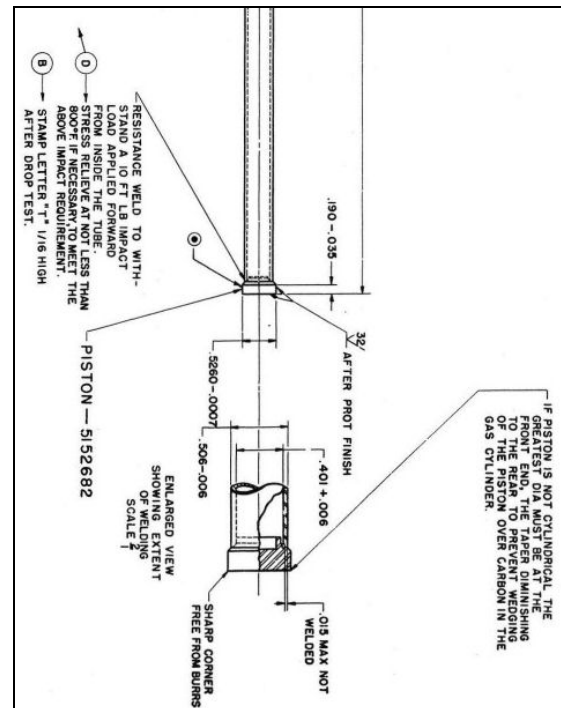

Figure 1 – Partial View, Rod Assembly – 6535382
I have obtained the last known changes to both the NM & standard (Std) Op Rod Assembly drawings. The Std Op Rod (Figure 1) has gone through at least six major revisions from 1938 through 1961. Drawing 6535382 states that the Op Rod Assembly can be used on M1, M1C & M1D rifles. Similarly, the NM Op Rod (Figure 2) went through two major revisions from 1960 through 1967. Both operating rod assemblies were originally drawn at Springfield Armory. The NM Drawing 7790722 indicates that the NM Op Rod can also be used on the M1, M1C, M1D & NM rifles. All blueprint revisions to the Std Op Rod were performed at Springfield Armory, while the 1967 revision to the NM Op Rod was drawn at Rock Island Arsenal.
The NM Assembly 7790722 is made up of the Handle & Tube Assembly, Part No. 6535383, & the Piston. The Handle & Tube Assembly (Figure 3) consists of: (1) Handle 6535384, & (2) Tube 6147193. Put rather simply, all components used in both the NM & Std Op Rod Assemblies are the same! Of interest is the method used to bond the Tube & Piston together on both of the Std & NM Assemblies (Figures 1 & 2). The Tube is mild steel, while the Piston is a corrosion resisting steel. To bond these two dissimilar metals, resistance welding was used to obtain adequate strength